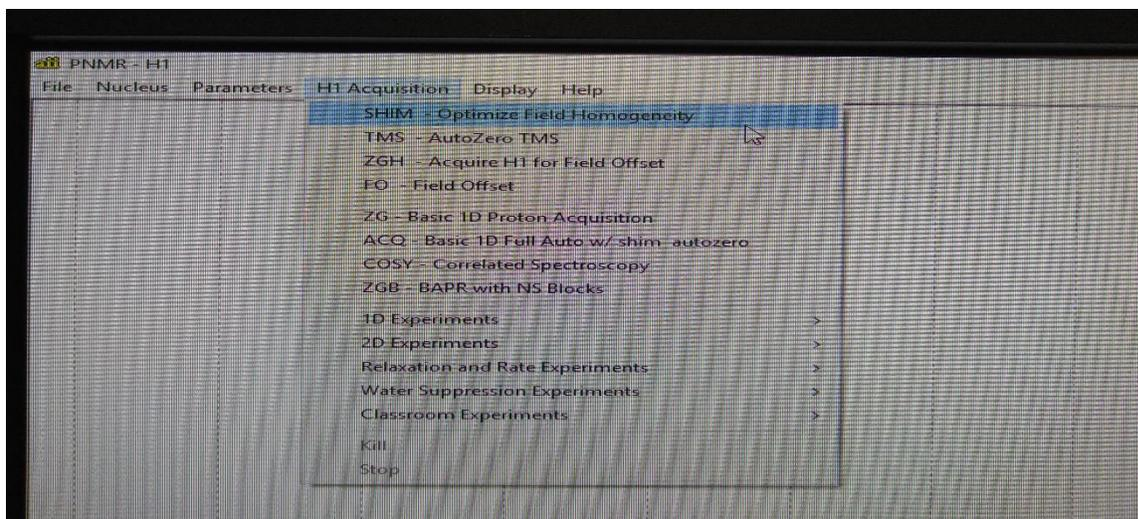

Figure 11. aii screen showing a selection of shim optimize field homogeneity.
- 12) From the top down menu on the aii screen select SHIM-optimize field homogeneity. See Figure 11.